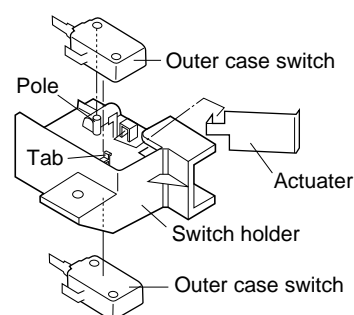

Figure C-5. Outer case switches replacement
1. Re-install the actuator to the switch holder by inserting the tab of the actuator into the square hole on the switch holder, as shown in Figure C-5.
2. Re-install the outer case switches to the switch holder, as shown in Figure C-5.
4. Re-install the one (1) snap of the main wire harness to the hole of the switch holder.
5. Catch the two (2) tabs of the switch holder to the two (2) holes of the oven cavity rear plate.
6. Re-connect the switch holder (outer case switch assembly) to the oven cavity rear plate with the one (1) screw.